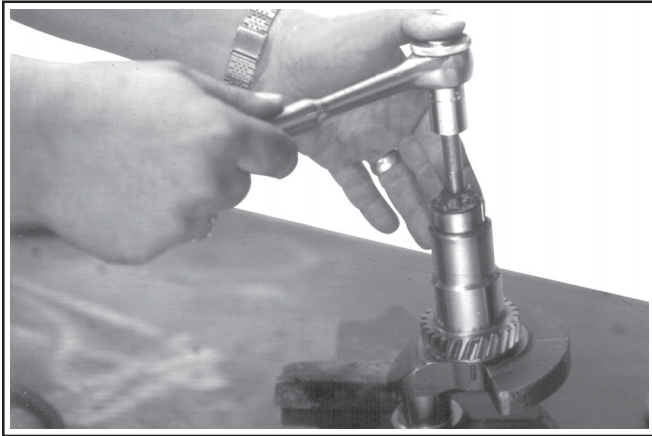

Figure 5.
- Thread the capscrew through the nut. It should turn easily until it bottoms in the crankshaft counterbore, then get more difficult as it begins to pull out the insert. Continue turning until the insert pulls free of the crankshaft. See Figure 5.